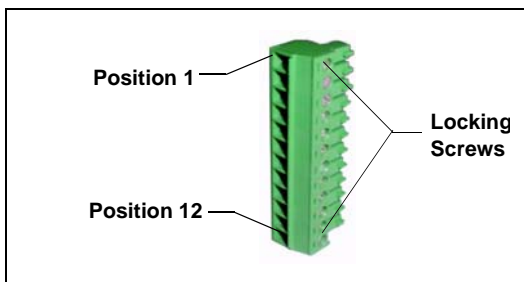

Figure C-2. 12-Position Connector Plug
1. Locate the twisted pair of wires (P/N 043598) and the 12-position connector plug (P/N 923687) (see Figure C-2) in the ICS-1000 Ship Kit (P/N 057905).